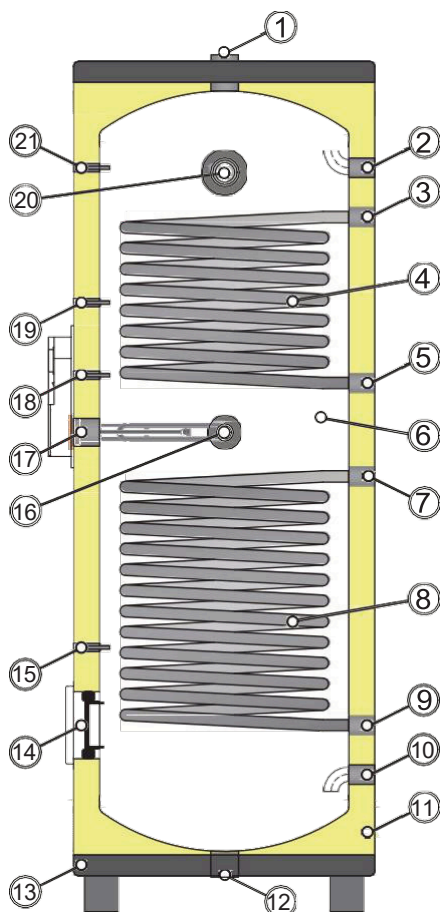

Figure 1
- c. Check hot water tank sensors (Position 15 & 18 & 19 & 21 Figure 1) to assure that they are secure and have not moved or loosen.
For protection against excessive pressures and temperatures, a T&P valve must be installed in the opening marked "T&P valve" (Position 1 Figure 1).
There is an important component in the tank which is often ignored and never seen, it is sacrificial magnesium anode rod (Position 20 Figure 1), used for inhibiting corrosion. As the name implies, the "sacrificial" magnesium rod is consumed so that the tank is not corrosion. At a certain point in the process, the magnesium rod is no longer completely effective and the corrosive processes begin to eat away at the tank. System temperatures and water quality affect the rate at which the anode rod is consumed. In general, the higher the average system temperature the faster the rate of corrosion. An inspection should be performed at least once a year. Periodic replacement of the magnesium anode rod in your hot water tank can significantly extend the tank life. It is important to turn off the power and drain tank, then replace the magnesium rod.